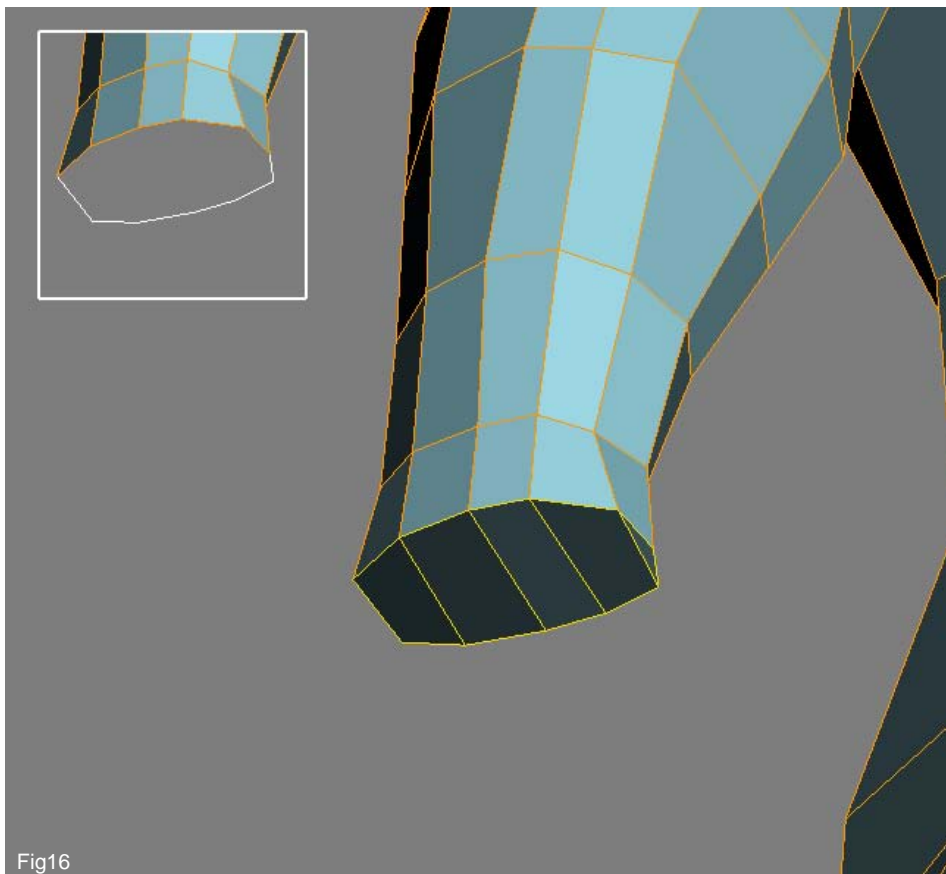

Fig16
16. As we did with the foot we are going to cap the end of the arm with five poly's as shown in Fig16. You will notice a single triangle on the left but do not be concerned about this at the moment.